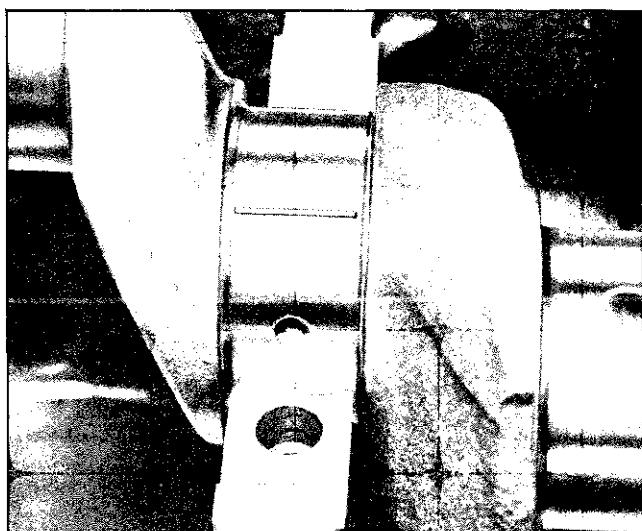

Fig. 6-48 Plastigage in Place
3. Place a piece of Plastigage, the length of bearing (parallel to crankshaft), on journal or bearing surface (Fig. 6-48). Install cap and tighten cap bolts to proper torque.
2. Place a piece of Plastigage, the length of bearing (parallel to crankshaft), on the crankpin or bearing surface (Fig. 6-48). Install the cap and tighten cap bolts to 33 lb. ft.